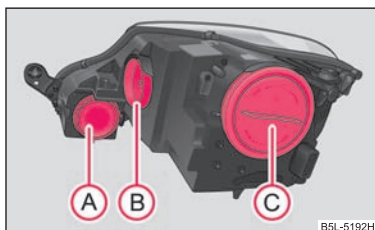

Fig. 188 Front headlight: Fitting position of the bulbs
Positions of the light bulbs in the front headlight ⇒ fig. 188.
- Remove the rubber protective cap ① ⇒ fig. 188.
- Remove the rubber protective cap **A** ⇒ page 238, fig. 188.
- Remove the rubber protective cap (A) ⇒ page 238, fig. 188.
- Unplug plug (1).
- Take the faulty bulb out of the fixture (2) by turning in direction of arrow and insert a new one in the reverse procedure.